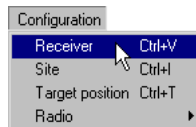

Figure 2-20. Configuration->Receiver
4. Click **Configuration->Receiver** (Figure 2-20).